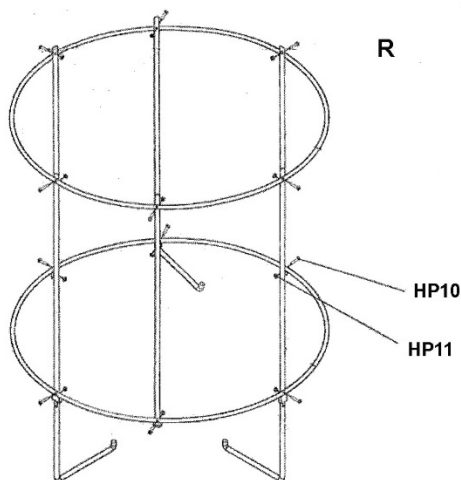

Figure 13
19. Screw the short and long frame supports into the hoops in alternating manner, as shown in Figure 13. Secure with twelve pan head screws and hex nuts (HP10, HP11). (Note: The bends on long supports point inward as shown.)